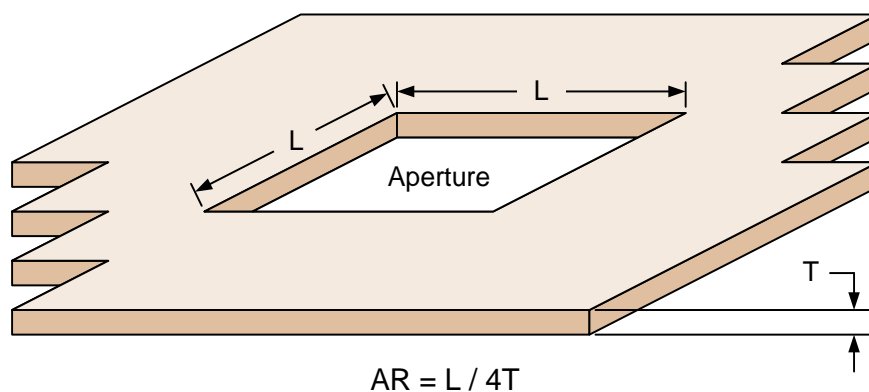

Figure 6-1 Area ratio (AR)
One key parameter that should be evaluated is the ratio of aperture area to sidewall area, known as the area ratio (AR). Square apertures are recommended for optimal solder-paste release. In this case, a simple equation can be used relating the side length of the aperture to the stencil thickness (as shown and explained in Figure 6-1). Larger area ratios enable better transfer of solder paste to the PCB, minimize defects, and ensure a more stable printing process. Inter-aperture spacing should be at least as thick as the stencil; otherwise, paste deposits can bridge.